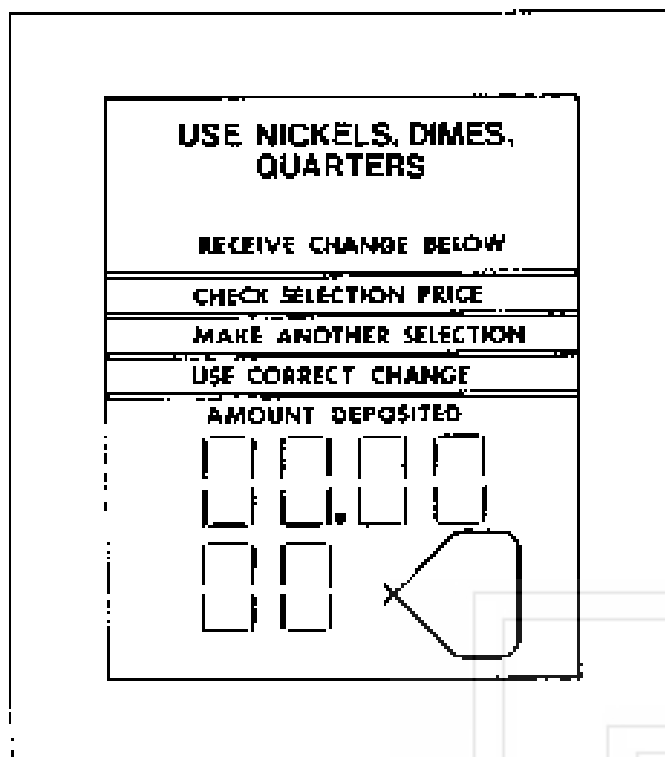

Figure 17.
B. Press button 11 on the selection panel and the display will show "00.00" (Figure 17) and with three audible beeps will be heard. This is the price display and can be incremented up by pressing button 11 and down by pressing button 12. Increments are 1¢ and each increase will produce one audible beep.